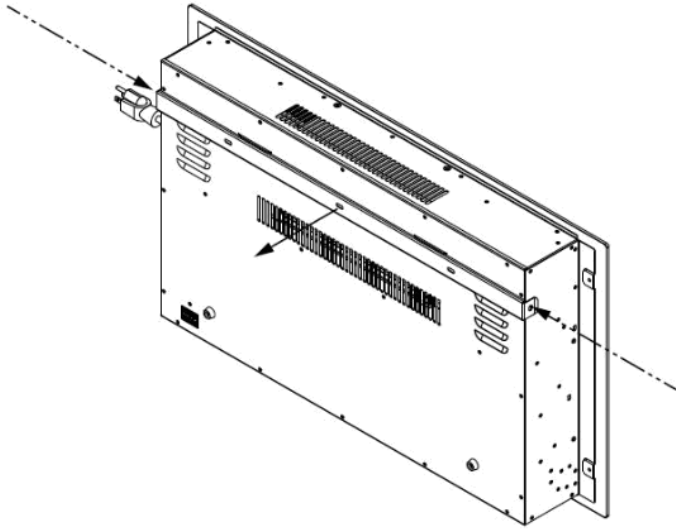
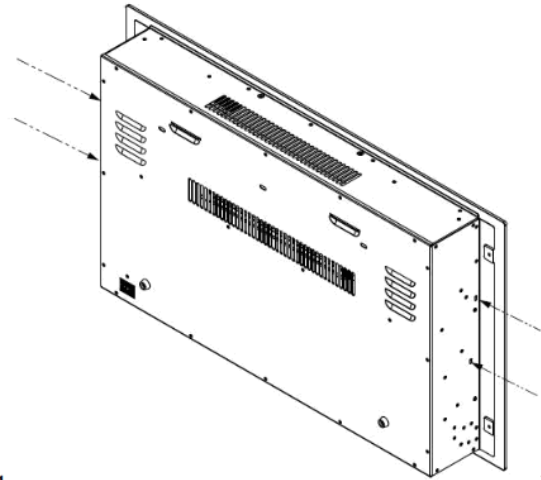

Fig.1
Fig.2
- C. Place unit face down on a soft, non abrasive surface. Remove the bracket from the back of the unit by removing the screws, refer to Figure 1. Remove four pcs of silver screws at both sides, refer to Figure 2.